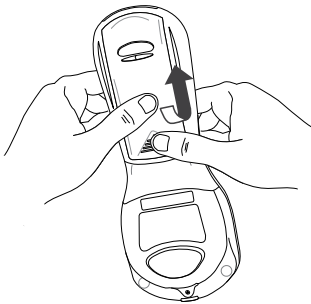

Figure 1
3. Press down firmly on the cover at the finger grip area. Push to slide the cover upward, then lift up and away from the monitor. (Fig. 1)